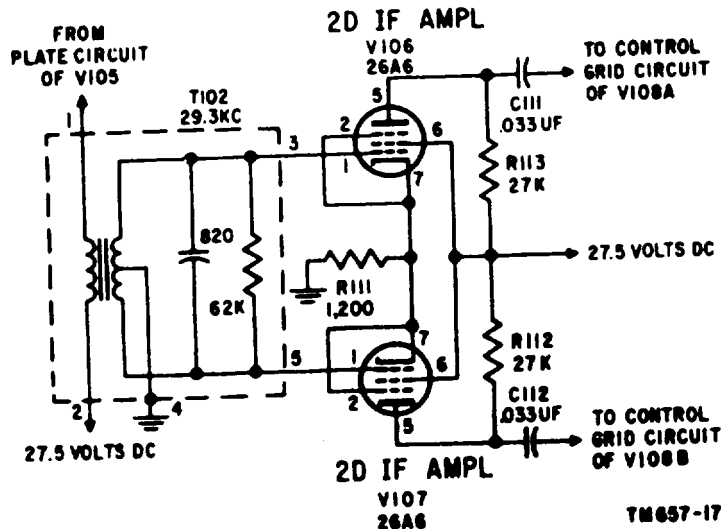

Figure 8. Second IF amplifier stage V106 and V107, schematic diagram.
11. Second IF Amplifier Stage V106 and V107 (fig. 8)